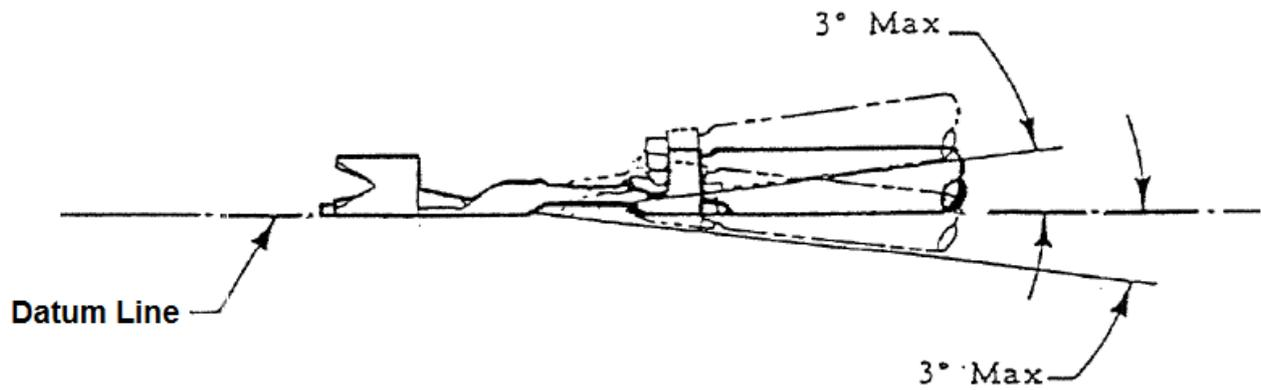

Figure 2
- 1) The contact, including the cutoff tab and burr shall not be bent above or below the datum line more than the amount in Figure 2.